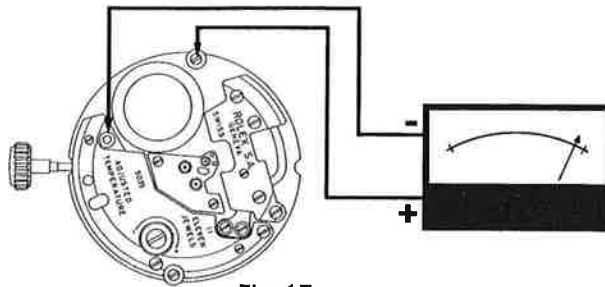

Fig. 17
9.18. Measure total consumption at a voltage of 1.55 V with the external supply stabilised (Fig. 17). It should be \leq to $9 \mu\text{A}$ (equal or smaller).